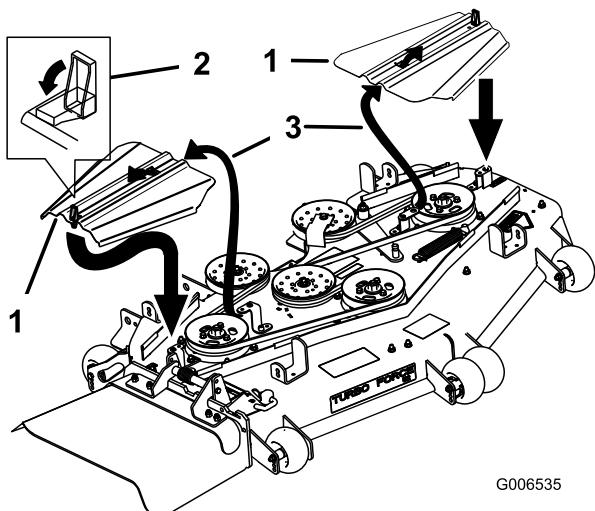

Figure 69
12. Install the belt covers by sliding the cover into the tab, install the bolts, and close the latches (Figure 69).